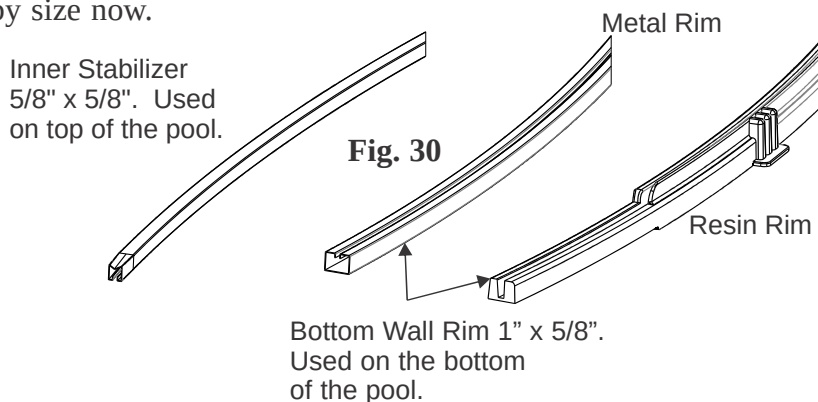
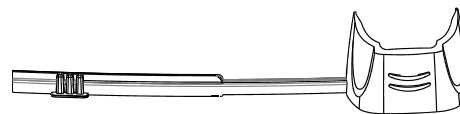

Fig. 31 Metal Bottom Wall Rim
Fig. 32 Resin Bottom Wall Rim
*** IMPORTANT: Make sure you are using the bottom rails and not the inner stabilizer bars. The bottom rails on some pool models are made of resin and not metal (see Fig. 31 and Fig. 32). The stabilizer bars are always metal and they have male and female end. The bottom rails are the larger width rails that have the straight cuts on both ends. The bottom rails do not interlock (see Fig. 30).**